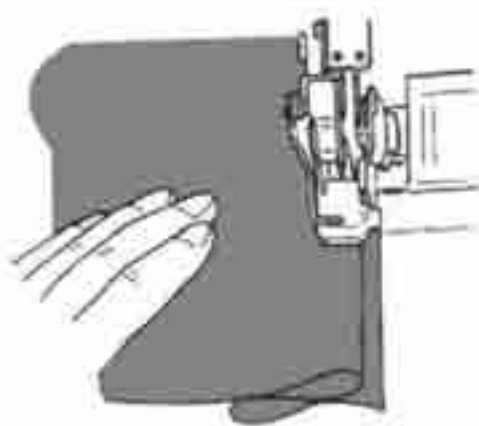

Fig. 95
3. Fold the hem, first to the inside and then to the outside of the fabric, so that the fabric edge stands 6 mm above the first fold (Fig. 95).